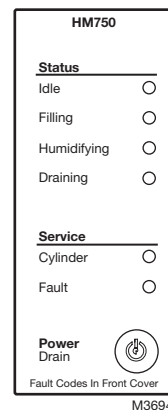

Fig. 10. LED panel
5. Check the LEDs to determine which mode the humidifier is in (Fig. 10). If there is a call for humidity, the "Filling" LED will illuminate. Once full, the humidifier should start making steam between 5 and 20 minutes later, and the "Humidifying" LED will illuminate. If there is not a call for humidity, the "Idle" LED will illuminate.